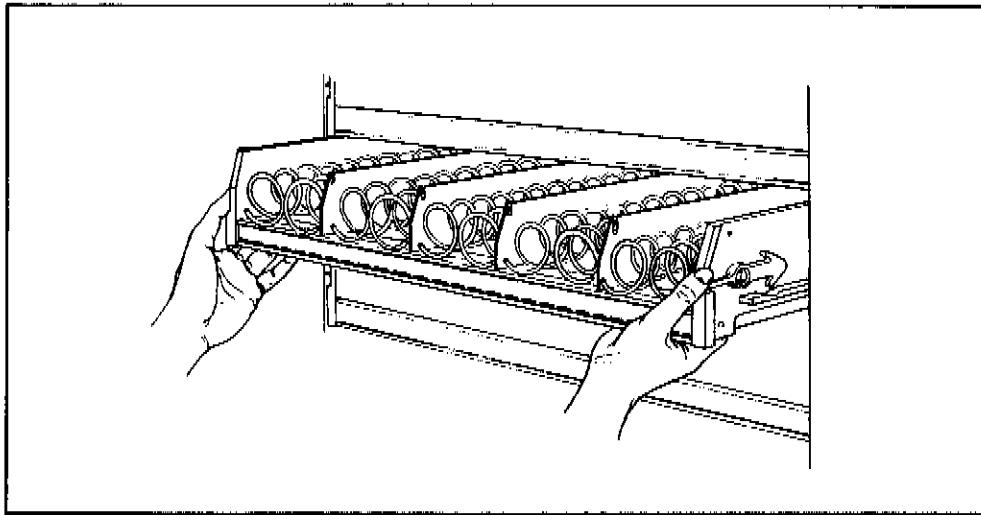

Figure S-3a
- * Pull the tray forward until you hear and feel the back rollers of the tray drop into the cut-out in the top of the guide rail. See Figure S-3a.